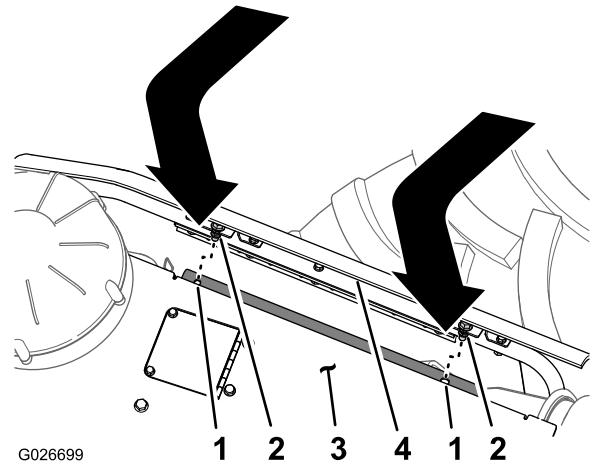

Figure 62
2. Align the mounting bolt at the top of the side panel with the hole in the support flange of the hood panel (Figure 62).